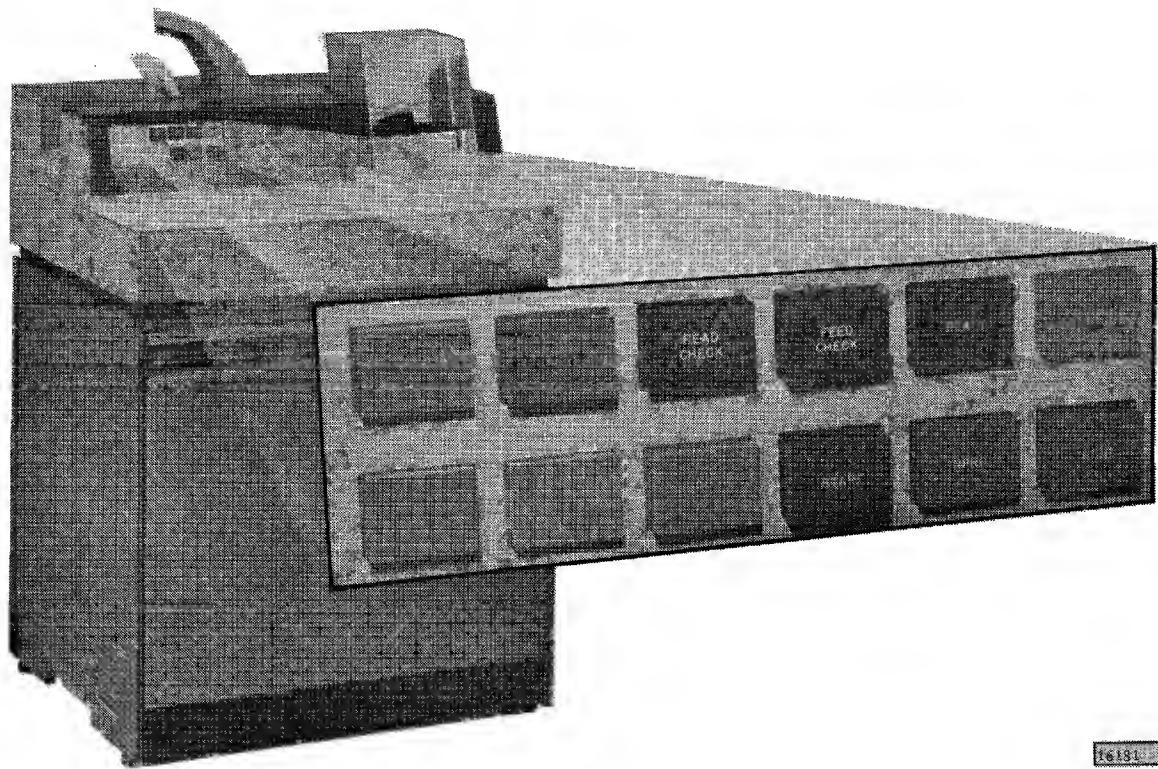

Figure 7-1. IBM 2501 Card Reader
- Two models of the 2501 (A1 and A2) are available (Figure 7-1).